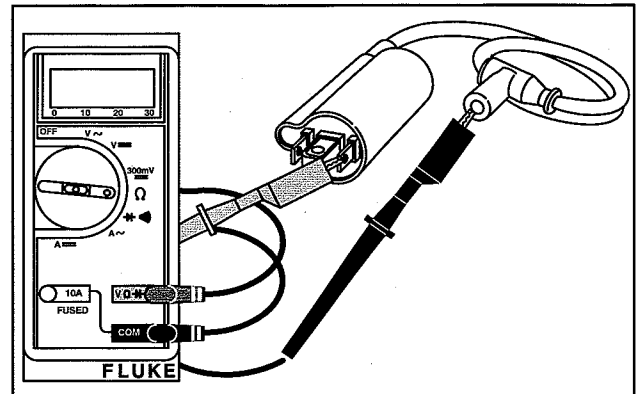

Fig. 8 – Testing Ignition Coil Secondary
2. Check coil secondary resistance between + terminals and spark plug lead as shown in Fig. 8.